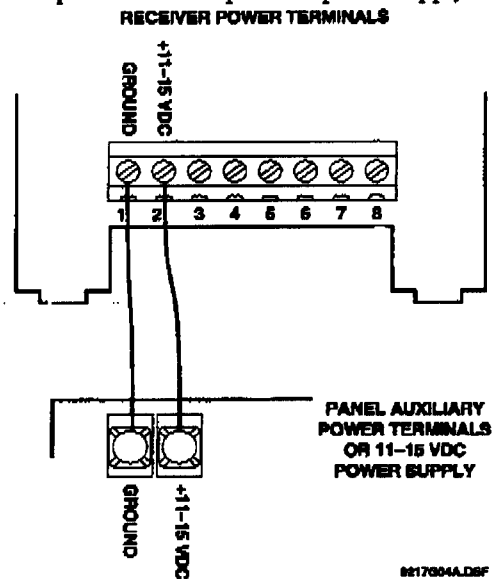

Figure 5. Connecting the panel's auxiliary power supply to the receiver.
- 2) Using Figure 5 as a guide, connect the receiver to the panel or other equivalent power supply.